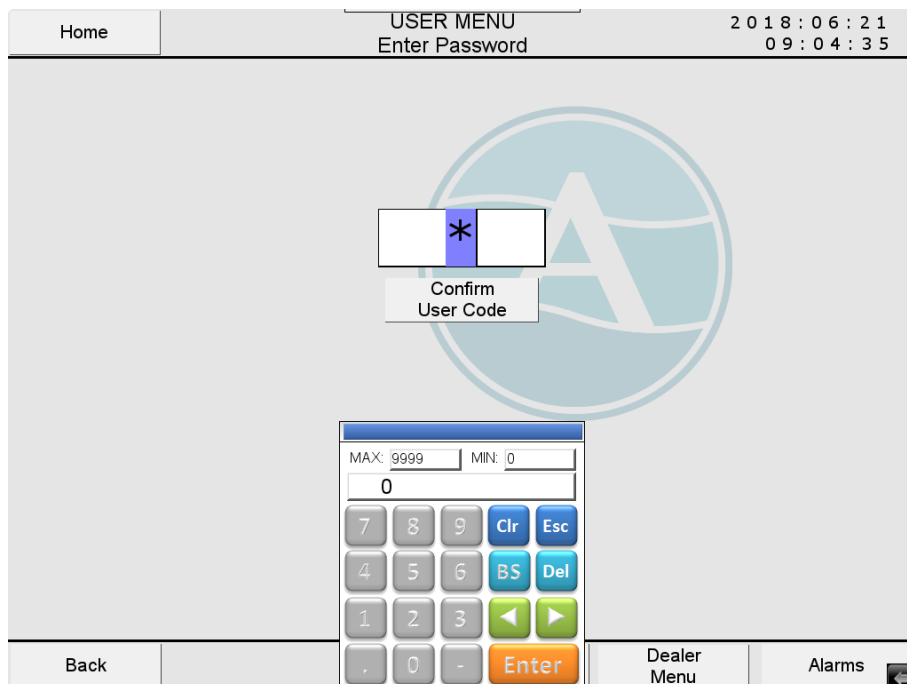

Figure 10 Login window
1. Press on the input field where the login code has to be entered Figure 10).